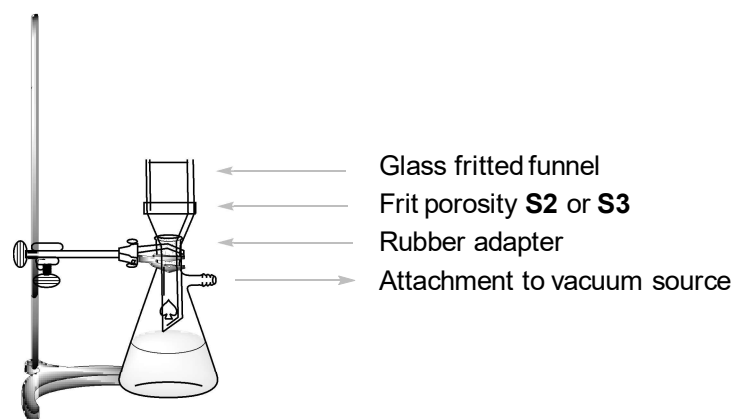

Figure 3. Setup for suction filtration.
2. Set up a vacuum filtration apparatus (Figure 3) using a glass fritted (sintered) funnel with porosity **S2** (with white label) and secure it to a laboratory stand with a small clamp. Connect the suction flask to the vacuum source. Pour the suspension of product **B** (step No. IV.1) into the fritted funnel, let the solid settle down, and then open the vacuum valve. *Caution:* notify the lab assistant before and after handling the valve! Wash the solid twice with 6 cm³ of deionised water, until the pH of the dropping filtrate is about 6. Let air suck through the precipitate for 5 minutes to pre-dry the product. Disconnect the vacuum source. Use the spatula to transfer white product B to a glass vial labelled **Student code B** and leave it uncovered on the bench to dry. Discard the filtrate to the sink drain and wash the suction flask.